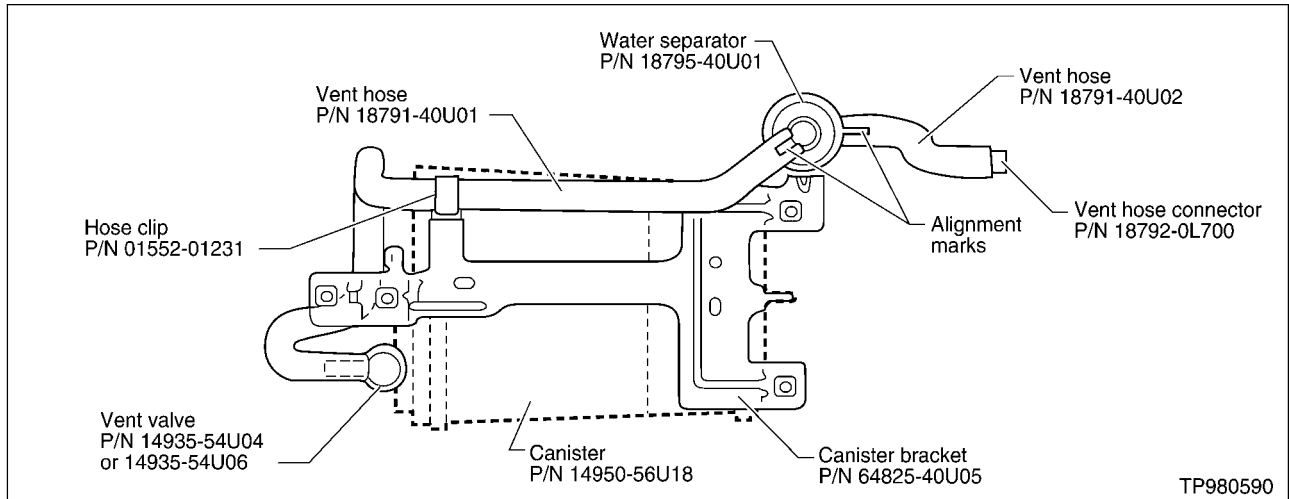

Figure 7
- C. Position the white alignment marks as shown to correctly assemble the new EVAP canister vent hoses, water separator and vent hose connector to the new EVAP canister bracket (see Figure 7).